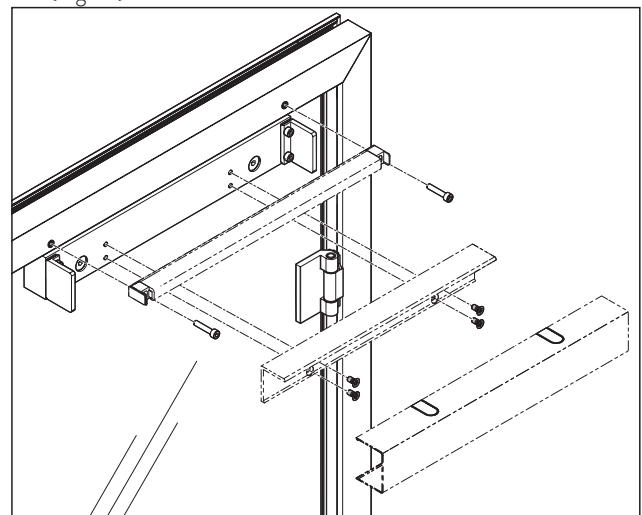

Fig. 14 Mount the door closer on the screw-on plate
1. Connect the door closer with the screw-on plate and the door frame according to the enclosed TS 97 mounting instructions (Fig. 14).